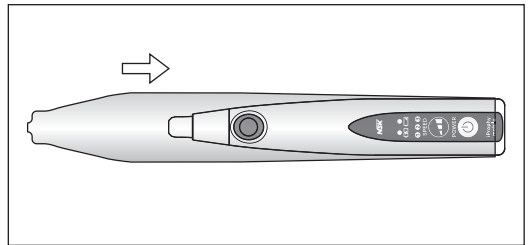

Fig. 2
- 2) Cover the handpiece with the supplied handpiece sleeve (Fig. 2).